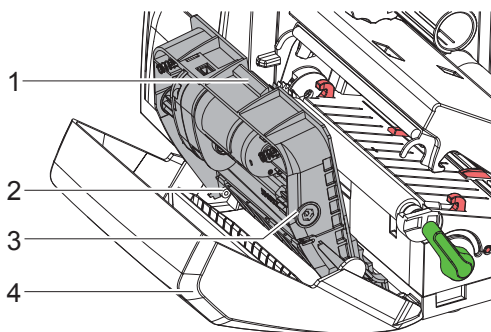

Fig. 19 Dismount Cutter
- ▶ Turn shaft (6) clockwise using a torx wrench TX10 until the gear racks (7) cannot engage anymore.
- ▶ Pull upper blade (9) out of the guides (8).
- ▶ Take out lower blade (10).
- ▶ Push lower blade down into the guides (11).
- ▶ If necessary, put springs (12) back into spring retainers (13).
- ▶ To re-mount the upper blade push lower blade down on the cover and push upper blade into the guide until the gear racks (7) can engage with the gear wheels (5).
- ▶ Turn shaft (6) counterclockwise using a torx wrench TX10 until the blade reaches the upper limit.
5. Fit blade unit (3) according to Fig. 19 into the axes (2) and fold it towards the cover (4) until it snaps in.